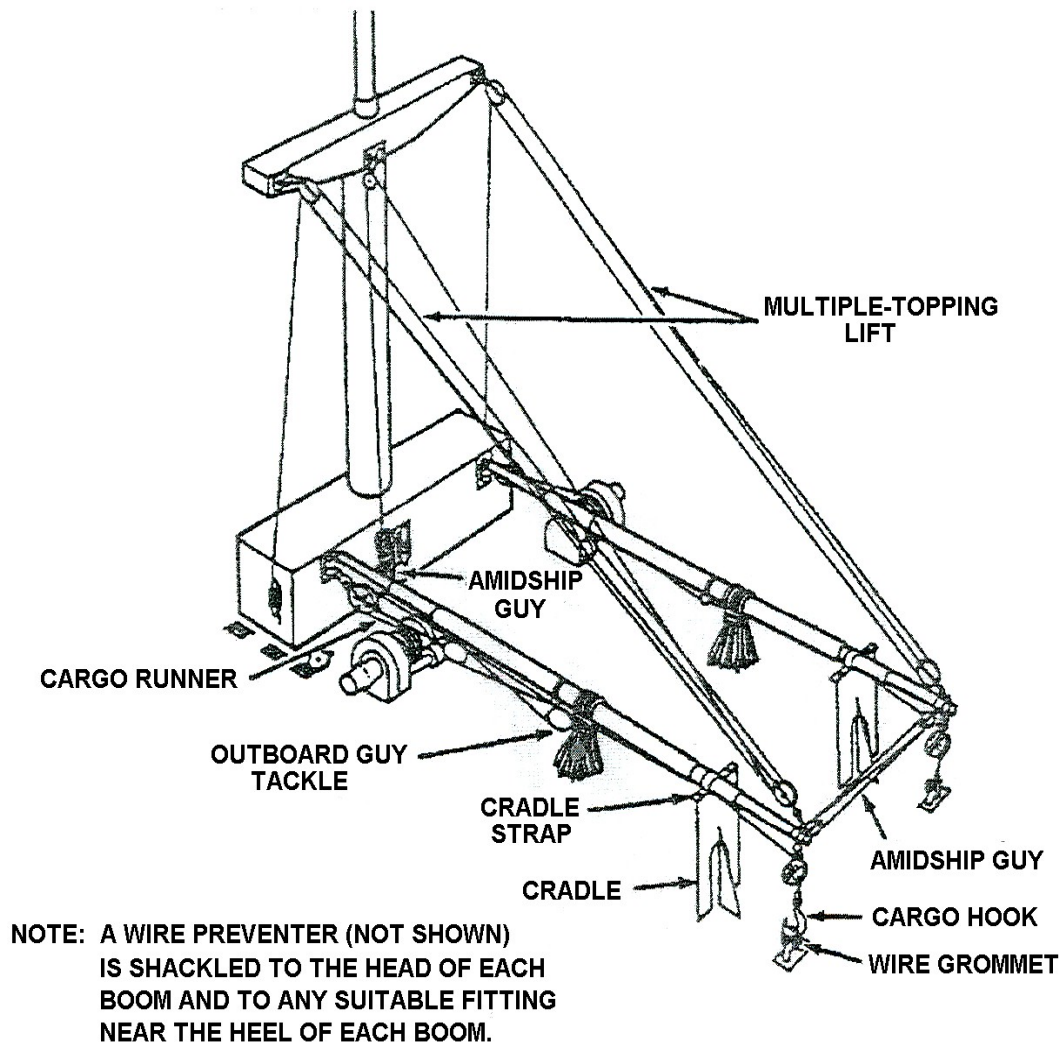

Figure 3-156
1. Select personnel to operate winches, guys, runners, topping lift wire, and cathead (see Figure 3-156).